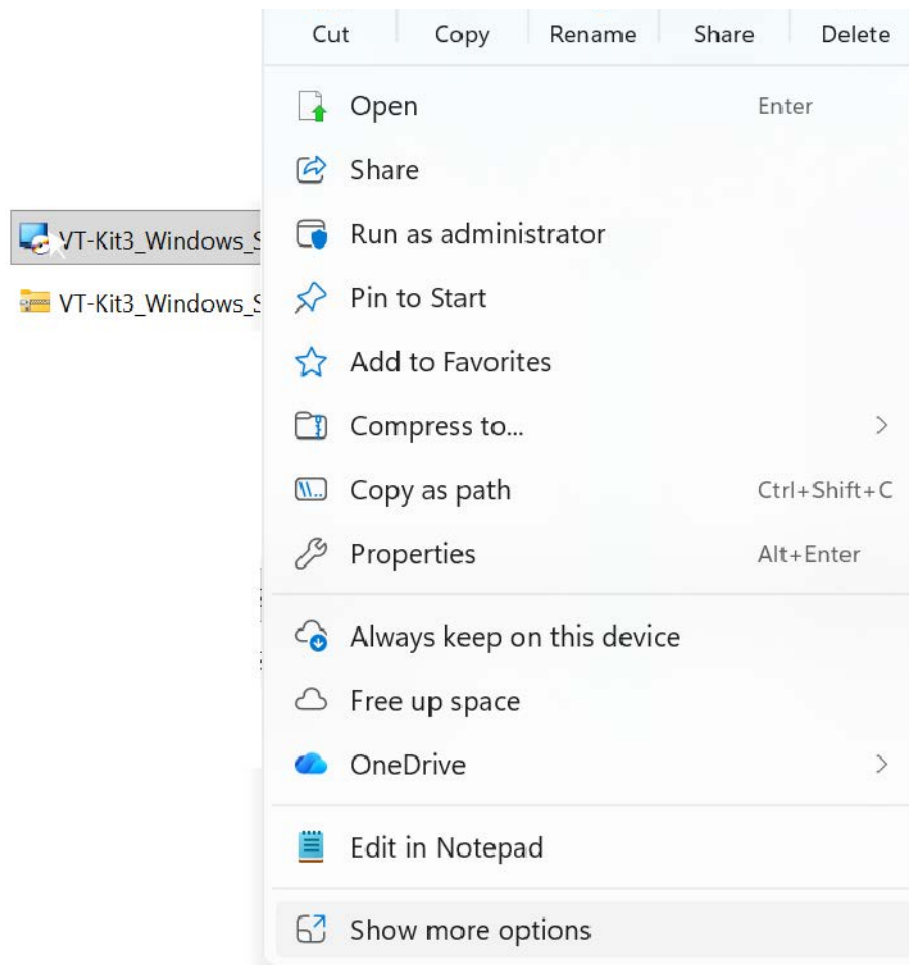

Figure 14. Icon Menu
1. Place the mouse over the file icon and right-click to display the icon menu. Refer to Figure 14.